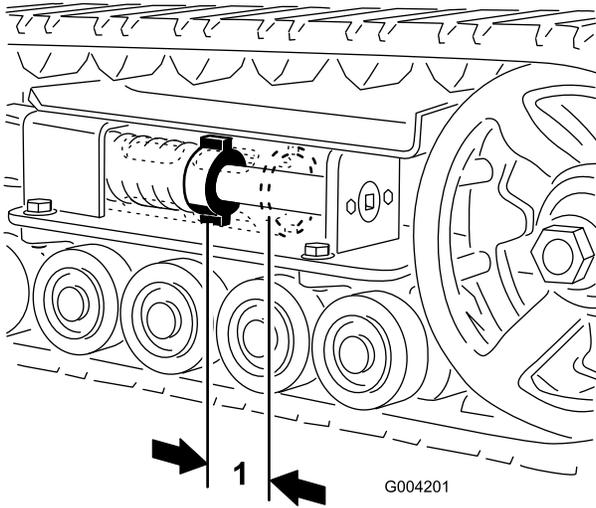
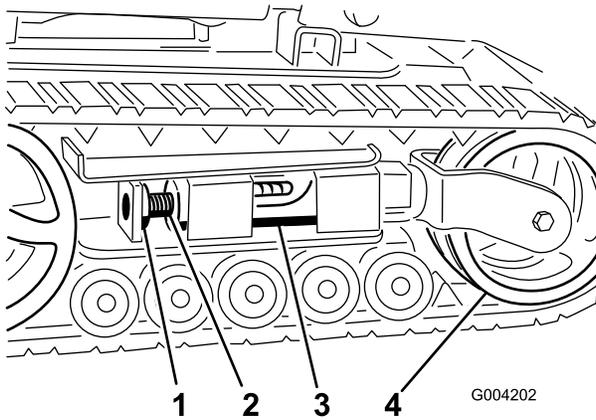
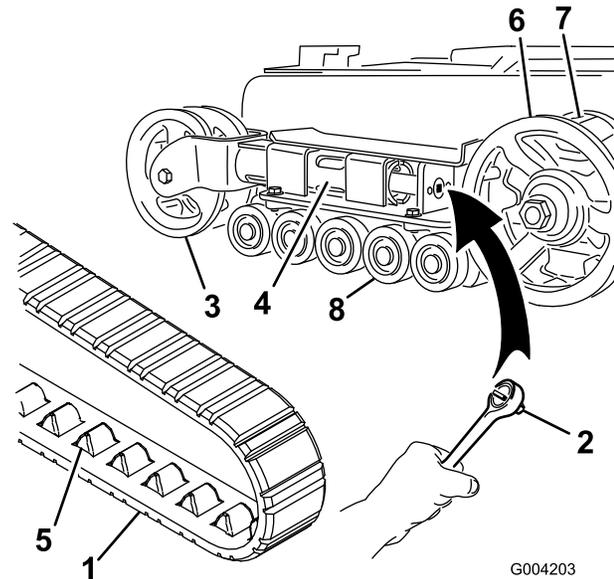
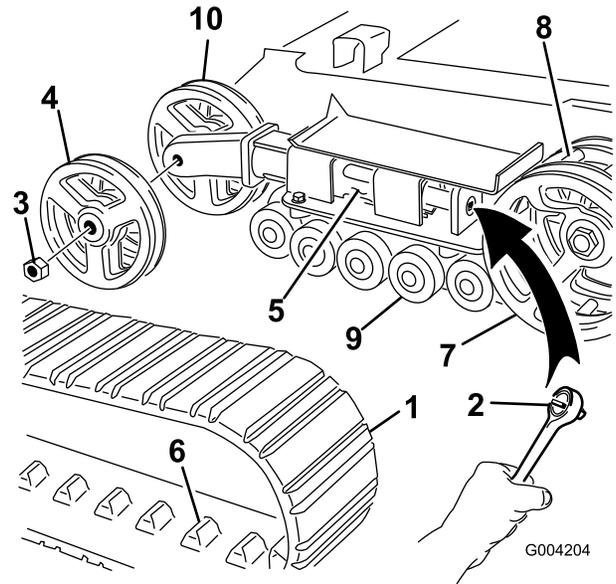

Figure 37
Figure 38
Figure 39
Figure 40
Check and adjust the track tension after the first 50 operating hours and every 100 operating hours thereafter. There should be 2-3/4 inches (7 cm) between the tension nut and the back of the tension tube (Figure 37). If not, adjust the track tension using the following procedure:
3. Remove the locking bolt and nut (Figure 38).
4. Using a 1/2 inch drive socket (Figure 39), turn the tensioning screw counter-clockwise until the distance between the tension nut and the back of the tension tube (Figure 37) is 2-3/4 inches (7 cm).
5. Align the closest notch in the tension screw to the locking bolt hole and secure the screw with the locking bolt and nut (Figure 38).
4. Using a 1/2 inch drive socket, release the drive tension by turning the tensioning screw clockwise (Figure 38 and Figure 39).
5. Push the tension wheel toward the rear of the unit to move the fork tube against the frame (Figure 39). (If it does not touch the frame, continue turning the tensioning screw until it does.)
7. When the track is off of the tension wheel, remove it from the drive sprocket and road wheels (Figure 39).
lugs on the track fit between the spacers on the sprocket (Figure 39).
9. Push the track under and between the road wheels (Figure 39).
11. Turn the tensioning screw counter-clockwise until the distance between the tension nut and the back of the fork tube (Figure 37) is 2-3/4 inches (7 cm).
4. Using a 1/2 inch drive socket, release the drive tension by turning the tensioning screw clockwise (Figure 38 and Figure 40).
5. Push the tension wheel toward the rear of the unit to move the tension tube against the frame (Figure 40). (If it does not touch the frame, continue turning the tensioning screw until it does.)
6. Remove the nut securing the outer tension wheel and remove the wheel (Figure 40).
7. Remove the track (Figure 40).
8. Remove the nut securing the inner tension wheel and remove the wheel (Figure 40).
12. Install the inner tension wheel and secure it with the nut removed previously (Figure 40).
14. Install the new track, ensuring that the lugs in the track fit between the spacers in the middle of the drive sprocket (Figure 40).
15. Install the outer tension wheel and secure it with the nut removed previously (Figure 40).
17. Turn the tensioning screw counter-clockwise until the distance between the tension nut and the back of the tension tube (Figure 37) is 2-3/4 inches (7 cm).